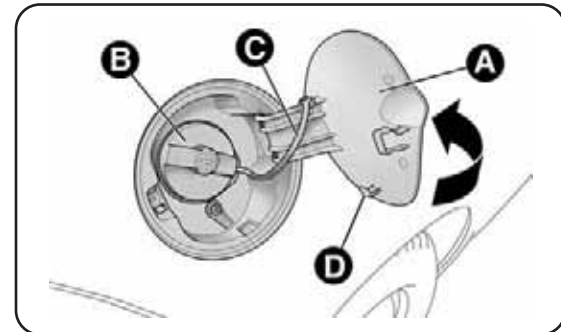

fig. 82
- 1) Open the flap A-fig. 82 pulling it outwards, keep the cap B still, insert the ignition key in the lock and turn it anti-clockwise.